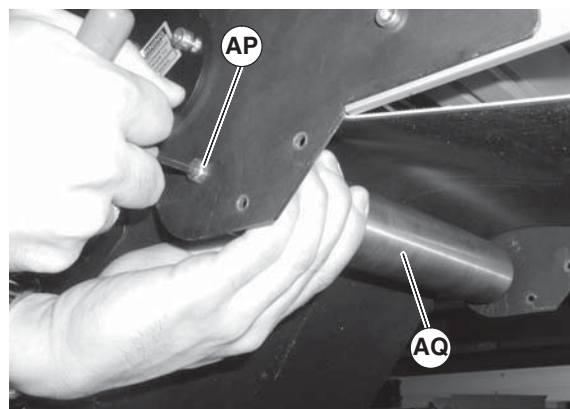

Figure 25
6. Push in hex posts (Figure 25, item AP) and remove pulley (AQ).